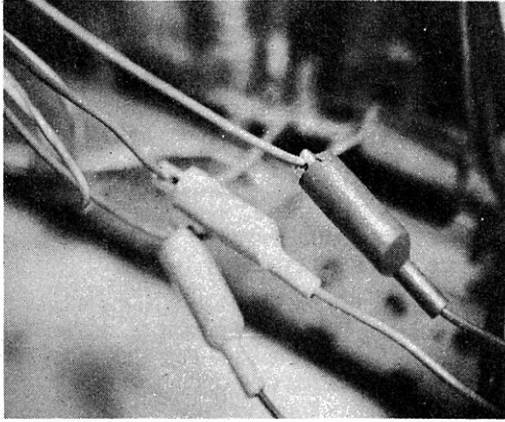

Fig. 9
Step 1. Connect the Model V-7 to the TV receiver as you would to obtain a cross-hatch pattern. Connect Ground Lead and Alligator Clip Leads to proper Kinescope Grids. See Fig. 9.